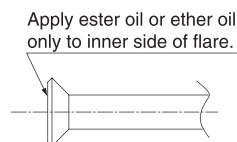

Fig. 3
- **Apply ether oil or ester oil only to inner side of the flare** and screw in the flare nut three to four turns first by hand at the time of connecting the flare nut. (Refer to Fig. 3)